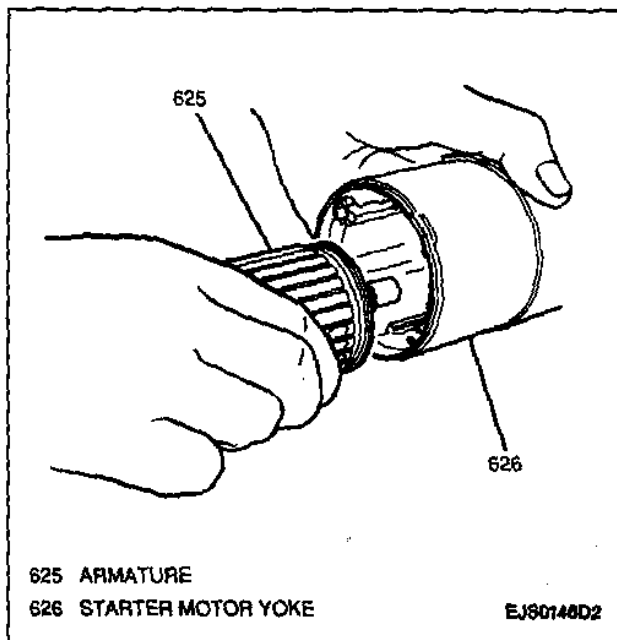

Figure 14—Removing Armature and Starter Motor Yoke
4. Armature and starter motor yoke from drive housing (Figure 14).